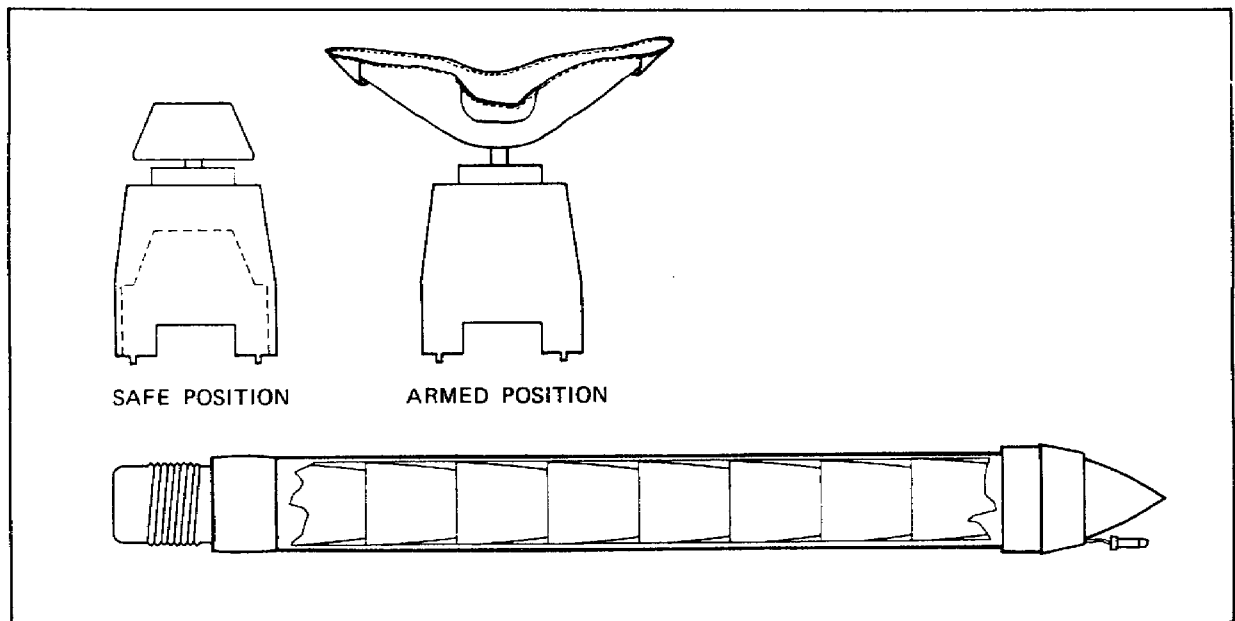

Figure 46. 2.75-Inch Rocket Multipurpose Submunition Warhead, M261.
Warheads. The 2.75-inch aircraft rocket also uses a variety of warheads, including, among others: high-explosive (HE) in two lengths, 13 inches and 23 inches; high-explosive antitank (HEAT); antipersonnel (apers) flechette; smoke-white phosphorous (SMK-WP); smoke screen; illuminating; and practice (has no spotting charge). There are several other types of warheads in various stages of development and distribution. Many contain small submunitions that are ejected from the warhead while the rocket is in flight. An example of this is the M261 multipurpose submunition (MPSM) warhead (Figure 46), the latest development in the HYDRA-70 rocket system.